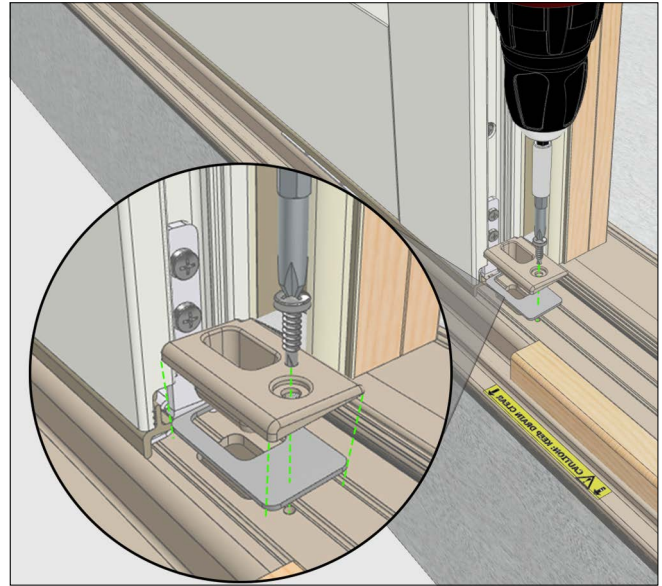

Figure 32
6. Install the sill strike using the sill color matched 8-18 x 3/4" pan head screw. See Figure 32.